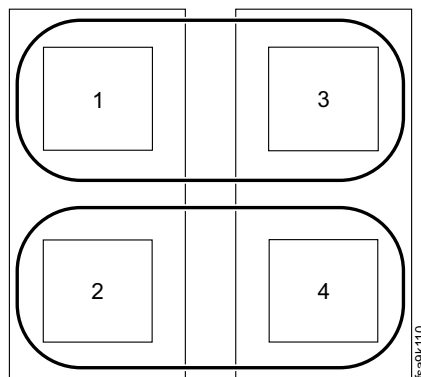

Figure 14. Crossing Fibre Channel grid controller ports
- Use different adapters within each of the grid controllers, as shown in Figure 14.